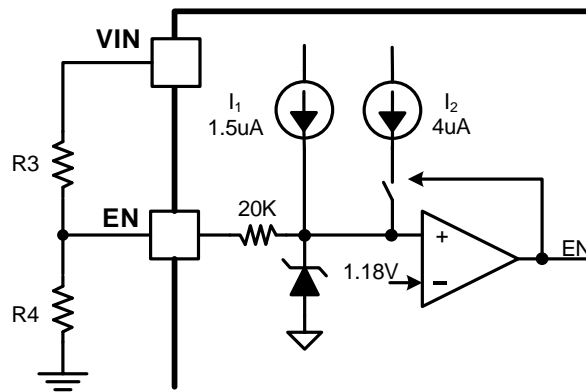

Figure 8. Adjustable VIN UVLO
An internal 1.5uA pull up current source connected from internal LDO power rail to EN pin guarantees that floating EN pin automatically enables the device. For the application requiring higher VIN UVLO voltage than the default setup, there is a 4uA hysteresis pull up current source on EN pin which configures the VIN UVLO voltage with an off-chip resistor divider R3 and R4, shown in Figure 8. The resistor divider R3 and R4 are calculated by equation (1) and (2).